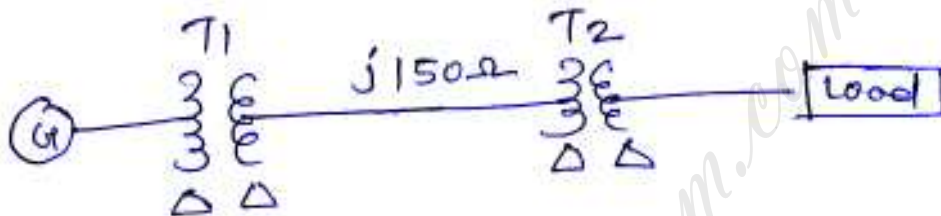

Fig. 3 (b).
- b) A, 12000 KVA, 12.5 KV, three phase alternator has a subtransient reactance of 0.1Ω . It is connected through a $\Delta - \Delta$ three phase, transformer to high voltage transmission line having total series reactance of 150Ω . A load of 13.8 KV, 15000 KVA with reactance of $j 0.526$ p.u. is connected at the end of line through $\Delta - \Delta$ three phase transformer. Both transformers are rated 18 KVA, 13.8 KV/138 KV with the reactance of 0.12Ω . Choose a base of 15000 KVA, 13.8 KV in load circuit. Draw reactance diagram and determine voltage at the terminals of generator Fig. 3 (b). 8